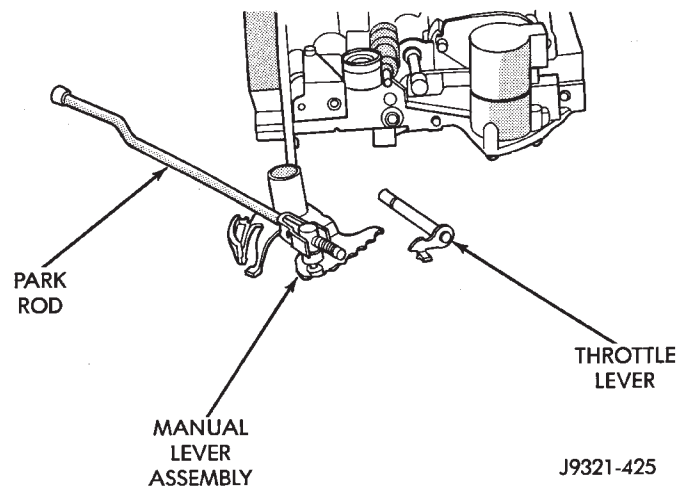

Fig. 103 Manual And Throttle Lever Removal
(15) Remove manual lever and throttle lever (Fig. 103). Rotate and lift manual lever off valve body and throttle lever shaft. Then slide throttle lever out of valve body.